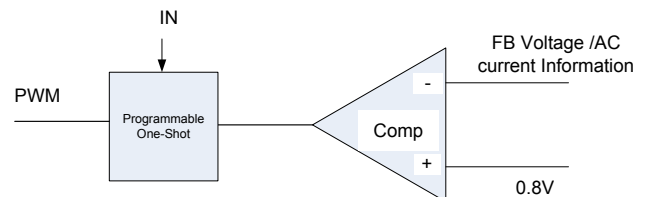

Figure 2. Simplified Control Schematic of AOZ2261AQI-18
The simplified control schematic is shown in Figure 2. The high-side switch on-time is determined solely by a one-shot whose pulse width can be programmed by one external resistor and is inversely proportional to input voltage (IN). The one-shot is triggered when the internal 0.8V is higher than the combined information of FB voltage and the AC current information of inductor, which is processed and obtained through the sensed lower-side MOSFET current once it turns-on. The added AC current information can help the stability of constant-on time control even with pure ceramic output capacitors, which have very low ESR. The AC current information has no DC offset, which does not cause offset with output load change, which is fundamentally different from other V^2 constant-on time control schemes.